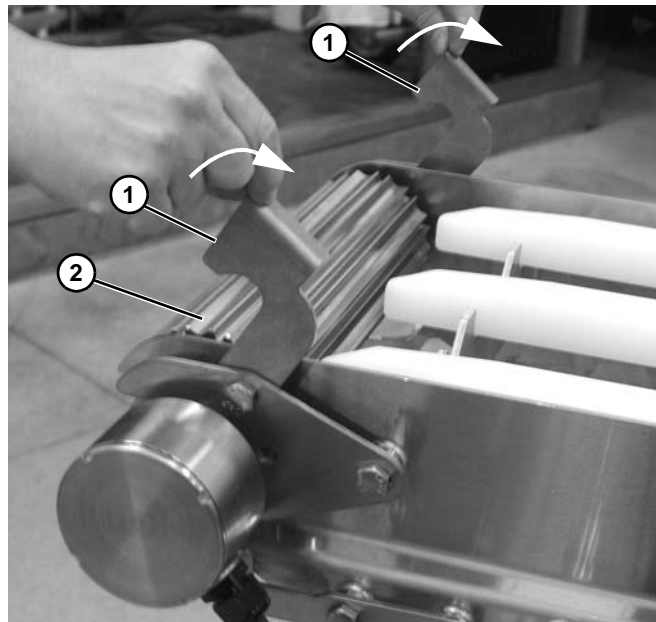

Figure 61
- Lift each locking plate (**Figure 61, item 1**) on each side, as shown, on drive end (**Figure 61, item 2**).